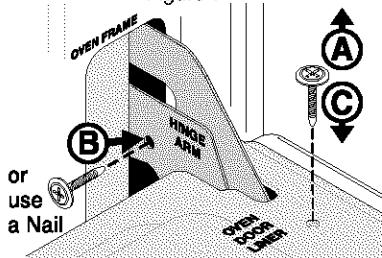

Figure 2
2. Remove 2 screws located on the inside of the oven door liner (See A Fig. 2).
3. Insert the 2 screws into the door hinge holes located on the side of the hinge arm, one into each hinge (See B Fig. 2).
5. Reinstall the 2 screws into the door liner (See C Fig. 2).